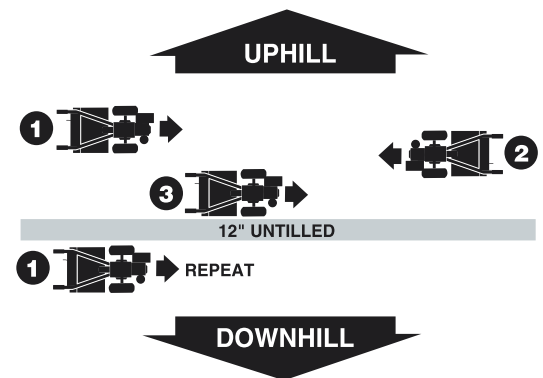

Fig. 4-10
- To create a terrace, start at the top of the slope and work down. Go back and forth across the first row as shown in Fig. 4-10.
- To create a terrace, start at the top of the slope and work down. Go back and forth across the first row as shown in Figure 4-10.